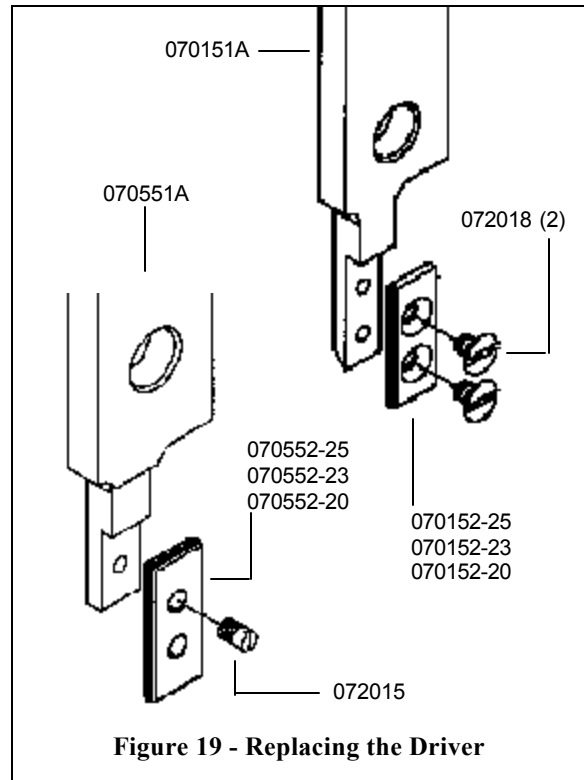

Figure 19 - Replacing the Driver
Replacing the Driver (Figure 19)
If the rib of the Driver (refer to **Figure 19** for part numbers) is worn or even chipped, the crown of the staples produced could be buckled or the corners may be sheared. To replace a worn or damaged Driver on a DB75 Head, loosen and remove the two (2) Screws (072018) securing the Driver to the Driver Slide Assembly (070151A). Secure the new Driver to the Driver Slide Assembly with the existing Screws after treating them with a threadlocker. The Driver has a small groove on one end to center the wire onto the driving surface. Make sure the grooved end is pointing downward before the Screws are tightened.